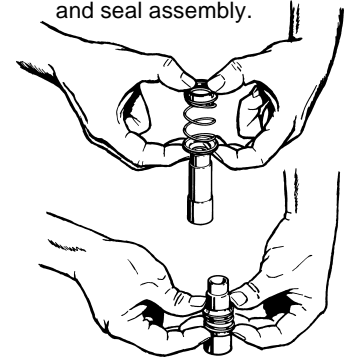

Figure 4-13
- d. Holding the element assembly between the thumb and index finger of both hands, refer to Figure 4-13, slide the